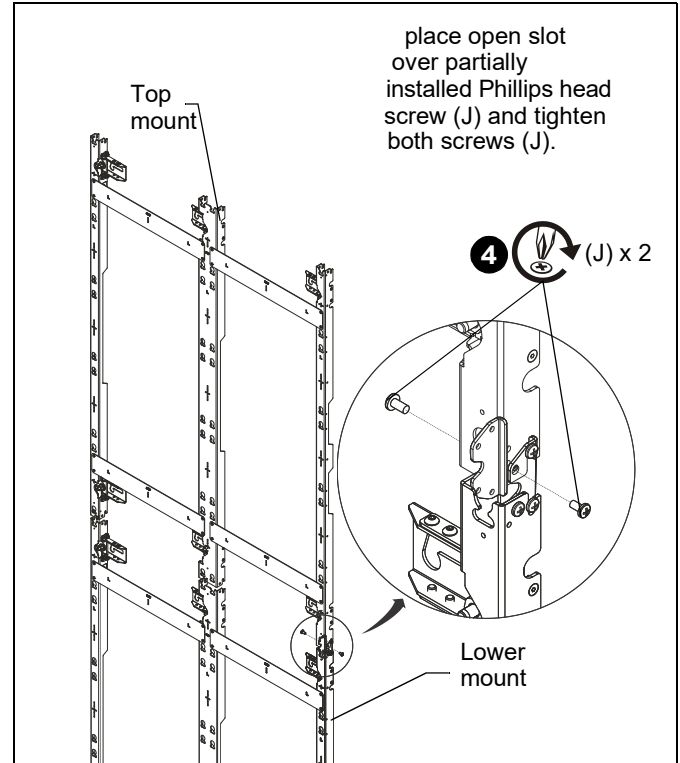
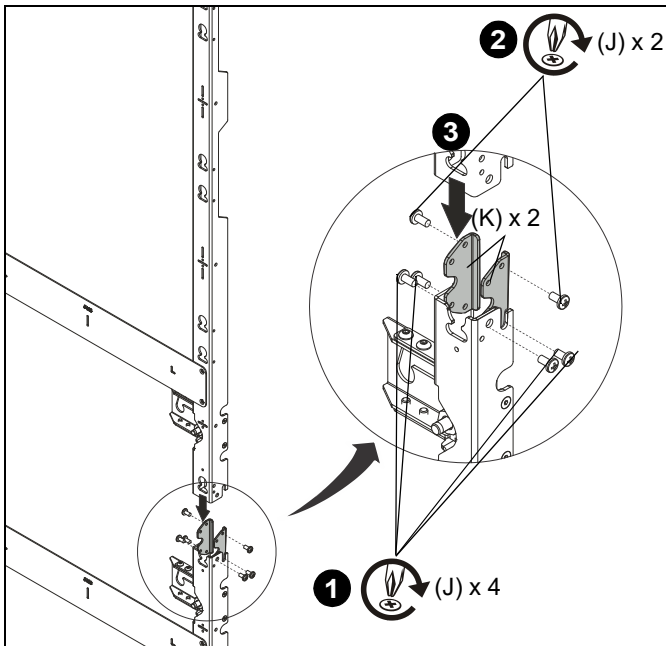

Figure 7
Figure 6
1. Add the vertical connector (K) to the top or bottom of the mount, and fasten with four 1/4-20 x 1/2" Phillips pan head screws (J) per vertical connector (K). (See Figure 6)
2. Partially install two 1/4-20 x 1/2" Phillips pan head screws (J) into top or bottom screw holes on connectors (K). (See Figure 6)
3. Connect another wall mount to the other end of the vertical connector (K) by placing open slot over partially installed screws (J). (See Figure 6) and (See Figure 7)
4. Install two 1/4-20 x 1/2" Phillips pan head machine screws (J) into inside holes on connectors (K). (See Figure 7)
5. Tighten screws partially installed in Step 2 to secure mount to connectors (K). (See Figure 7)
**NOTE:** When connecting a mount to the bottom of an **installed** mount, the lower mount may be hung by its open slot on the partially installed Phillips head screw (J) before tightening the connection. (See Figure 7)